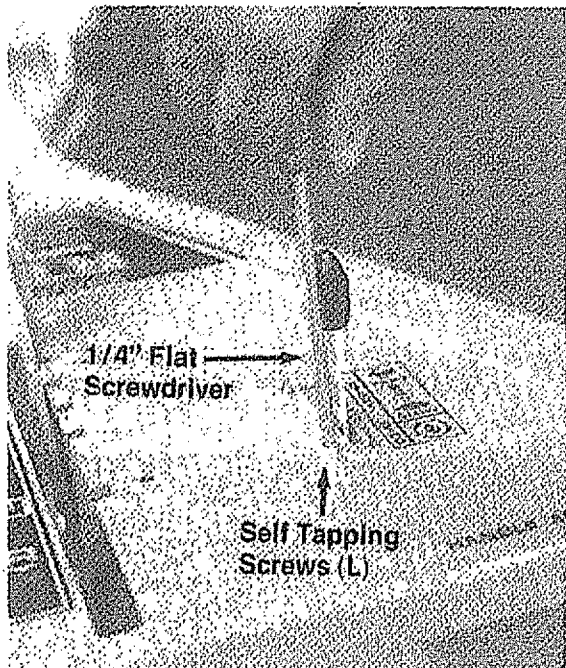

FIGURE 13.
Place throttle control lever up through the handle panel and secure with two self tapping screws (L), using a 1/4" flat screwdriver. See figure 13.